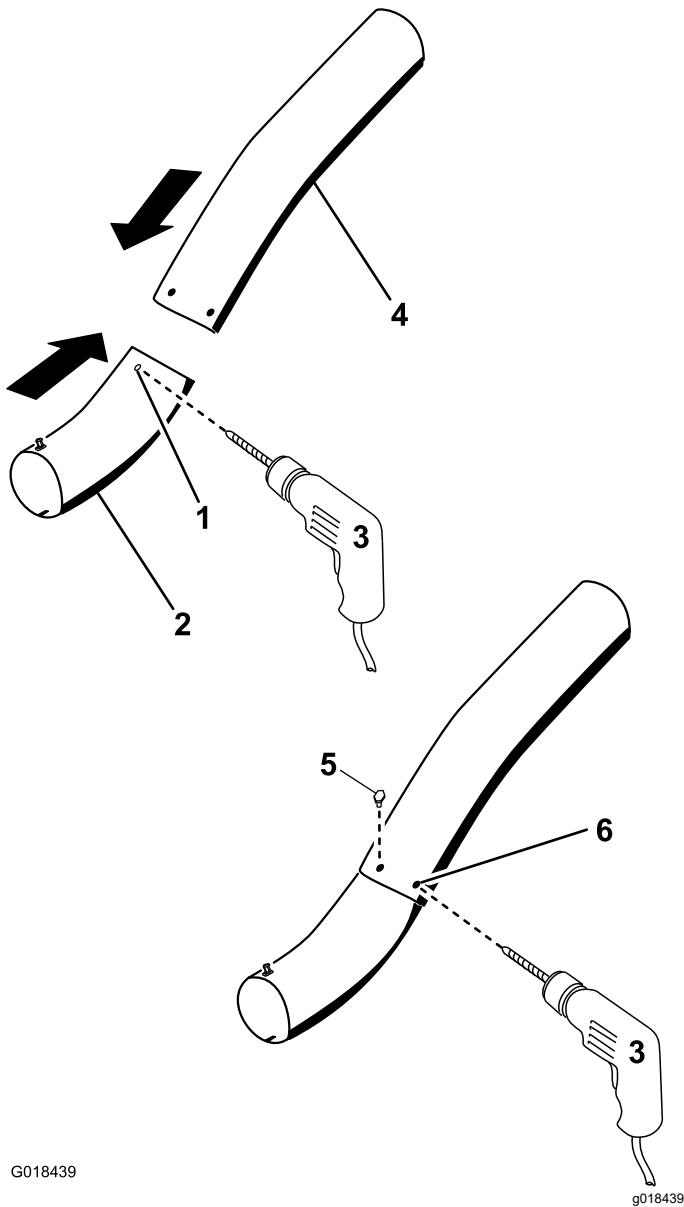

Figure 32
13. Using the existing holes in the upper tube as a template, drill 2 holes, 6.5 mm (1/4 inch) diameter, through the dimples on the lower tube (Figure 32).
18. Secure the tubes together with the nuts (1/4 inch) as shown in Figure 32.
16. Install the washers (1/4 inch) onto the bolts (Figure 32).
17. Using a hex key tool, install the screws (1/4 x 3/4 inch) and washers (1/4 inch) from the inside of the lower tube and through the existing holes in the upper tube (Figure 32).